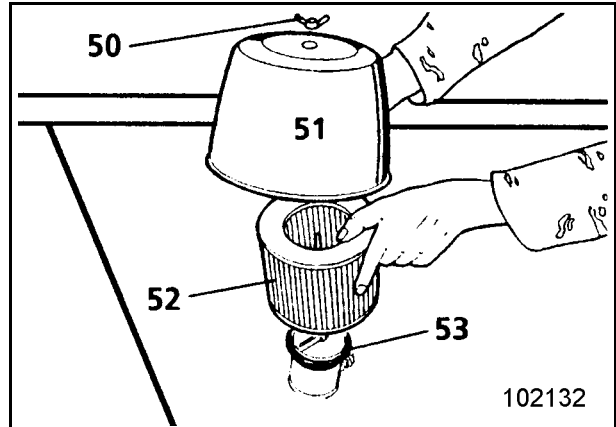

Fig. 3-52:
- Unscrew butterfly nut (50, Fig. 3-52:). Withdraw hood (51) and withdraw filter element (52) from the holding rod.
- Insert new sealing ring (53) and new filter element and secure hood (51) with nut (50).